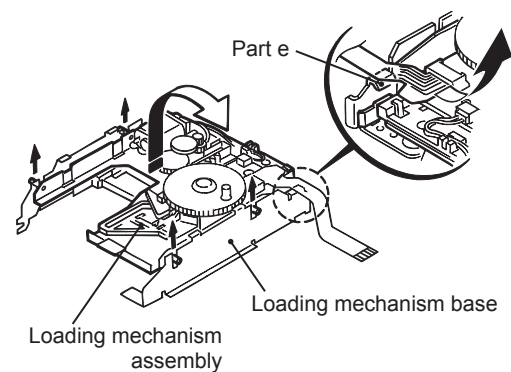

Fig.11
2.4.6.2 Removing the loading mechanism assembly (See Fig.11)